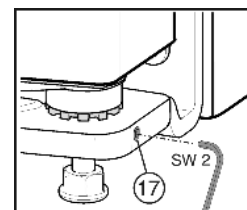

Fig. 12
- ▶ Extend the threaded pin Fig. 12 (17) a little (by one turn at most!).
- ▶ Tighten the threaded pin Fig. 12 (17) again to secure the bearing pin.